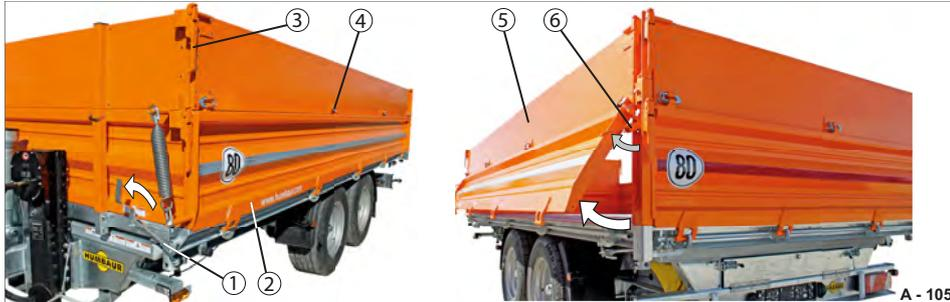

Fig. 110 Side platform gates swinging combined with platform gate attachment
The locks of the platform gate attachment (Fig. 110/3) must stay closed.
The hinges (Fig. 110/4) must be secured!
- ▶ Unfasten the locks of the base platform gate (Fig. 110/6).
- ▶ Unlock the central locking system (Fig. 110/1).
- ▶ Close the central locking system (Fig. 110/1).
- ▶ Fasten the locks of the base platform gate (Fig. 110/6).